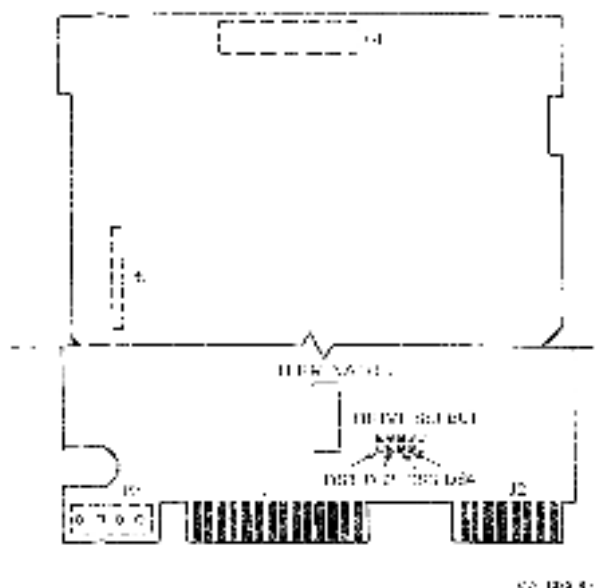

Figure 2-22 RD52 Jumper Options
10. Insert the new PC board by doing steps 1 through 10 in reverse. Make sure that you line up connector P4 when installing the PC board. Put screws back in the same places (there are four lengths). Check, and if necessary, set, the drive address jumpers before you reinsert the drive. In the PC386 family, you should install address jumper DS1 and remove address jumpers DS2, DS3, and DS4 (Figure 2-22).